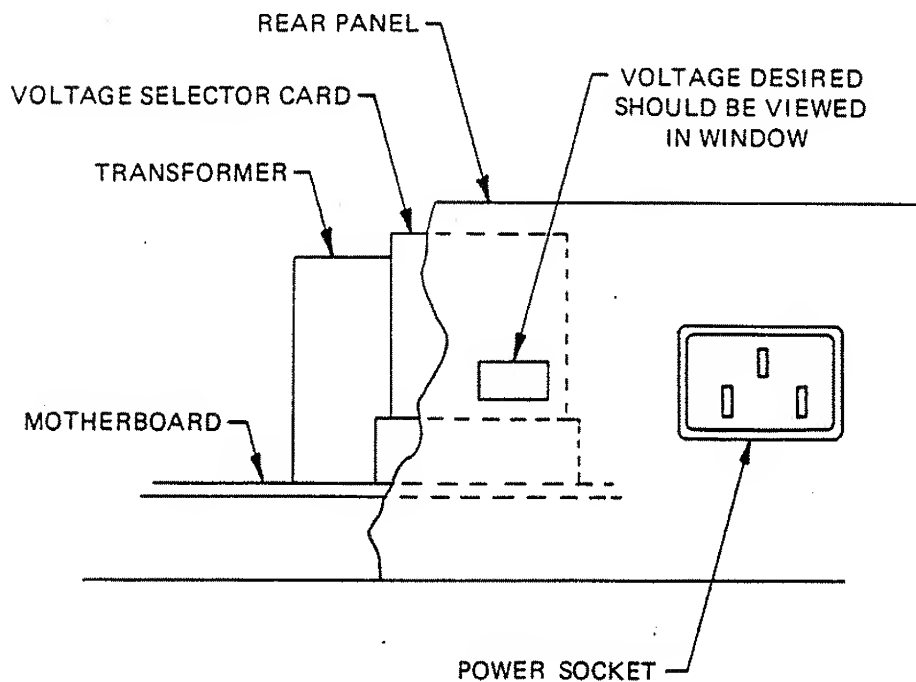

Figure 2.9 - AC Line Voltage Selection
2.7.1 Before operating the counter, verify that the AC voltage selector is correctly set for the local AC supply. The counter operates on 100, 120, 220, or 240 volts, 45 to 450 Hz. The present voltage range can be viewed through the small window on the rear panel between the power cord socket and the line fuse (see Figures 2.9 and 3.2).
2.7.2.1 The line voltage setting is easily changed by repositioning the small voltage selector card, which is inserted vertically in its slot close to the rear panel. Refer to Figure 2.9 and use the following procedure: